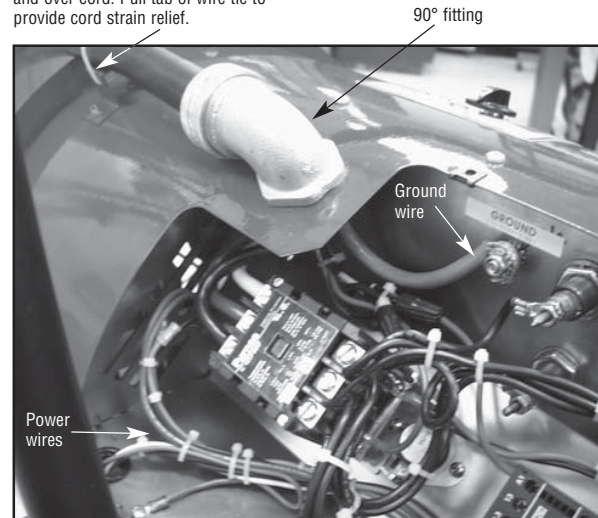

Figure 2
- Attach cord assembly to heater as shown in Fig. 2 below: